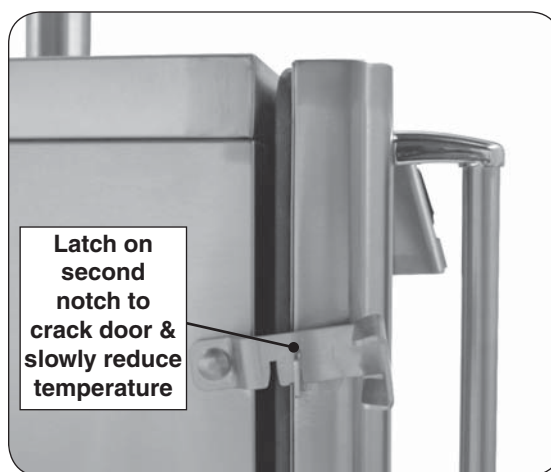

Fig. 14-2
- Crack open the door by setting the latches on the second notch, as seen in Fig. 14-2.